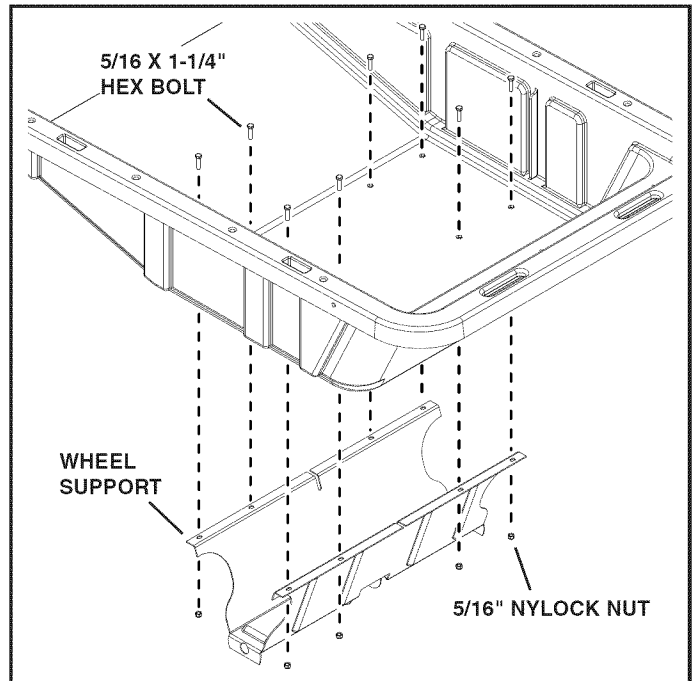

FIGURE 1
- (1) Pliers
STEP 1: (SEE FIGURE 1)